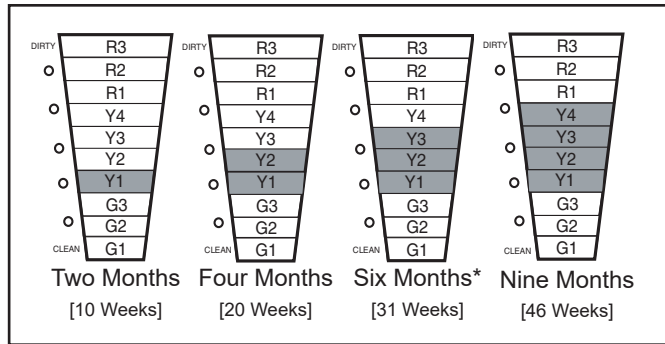

Figure 25 Yellow LED Collection Cells Settings
- The four YELLOW LED's indicate the COLLECTION CELLS cleaning interval. This is measured in actual run time of the indoor fan. The default setting is 6 months [31 weeks]. See Figure 25.
CELL CLEANING SETTING (Figure 25)